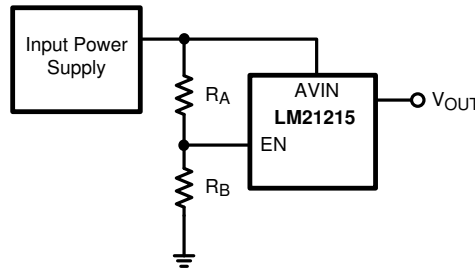

图 8-3. Enable Start-Up Through V_{IN}
The LM21215 has a built-in undervoltage lockout protection circuit that keeps the device from switching until the input voltage reaches 2.7 V (typical). The UVLO threshold has 200 mV of hysteresis that keeps the device from responding to power-on glitches during start-up. If desired, the turn-on point of the supply can be changed by using the precision enable pin and a resistor divider network connected to VIN as shown in Figure 8-3 in the design guide.
The enable (EN) pin of the LM21215 allows the output to be toggled on and off. This pin is a precision analog input. When the voltage exceeds 1.35 V, the controller will try to regulate the output voltage as long as the input voltage has exceeded the UVLO voltage of 2.7 V. There is an internal current source connected to EN so if enable is not used, the device will turn on automatically. If EN is not toggled directly, the device can be pre-programmed to turn on at a certain input voltage higher than the UVLO voltage. This can be done with an external resistor divider from AVIN to EN and EN to AGND as shown in 图 8-3.